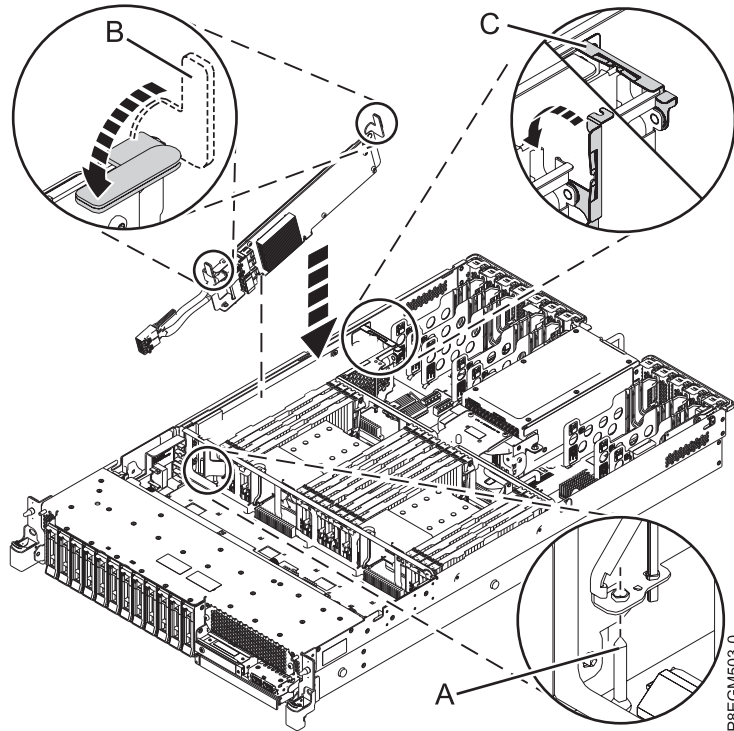

Figure 4. Replacing the PCIe3 x8 SAS RAID internal adapter 6 Gb in slot P1-C14
10. Complete the installation of the PCIe3 x8 SAS RAID internal adapter 6 Gb by fully seating it. Ensure that the adapter is installed on locating pin **(A)**. Press the top-center edge of the card down to firmly seat it into the system backplane connector, as shown in Figure 4 on page 5.
11. Push the blue handles **(B)** in the direction that is shown in Figure 4 on page 5.
12. Push the cable retention bracket **(C)** in the direction that is shown in Figure 4 on page 5.